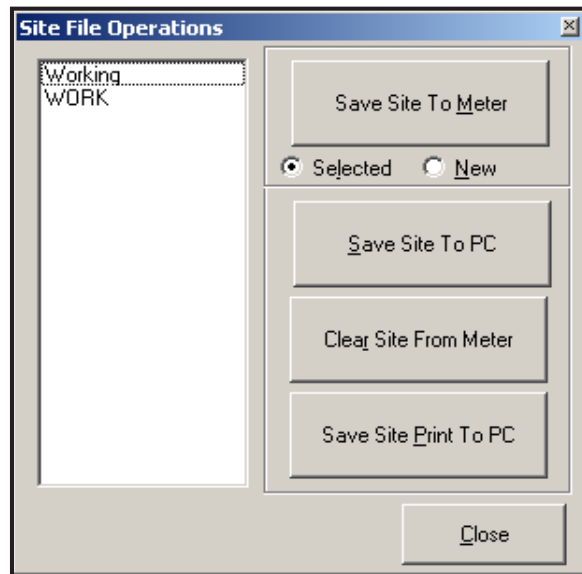

Figure 51: Site File Operations Window
- Click on the [Site Files] button. The *Site File Operations* window (shown in Figure 51) opens.
1. Highlight the desired site in the left pane. (See Figure 51 on page 132.)